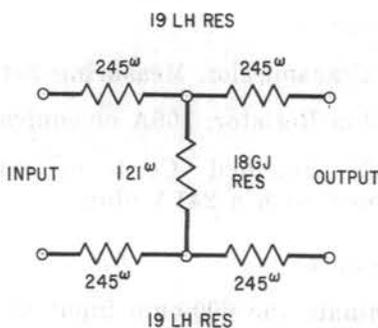

Fig. 3 - Output Pad
2.16 This test is made to verify that the amplifier is capable of a maximum single-frequency output of +35 dbm (3.2 watts) from the output having 600-ohm source impedance. Since the 21A TMS is not capable of reading power levels up to +35 dbm, a supplemental pad must be provided between the amplifier and the transmission measuring set. Such a pad can be constructed locally by interconnecting one 18GJ resistor and two 19LH resistors as shown in Fig. 3. This pad provides 20 db loss with good accuracy and is capable of dissipating the required amount of power.